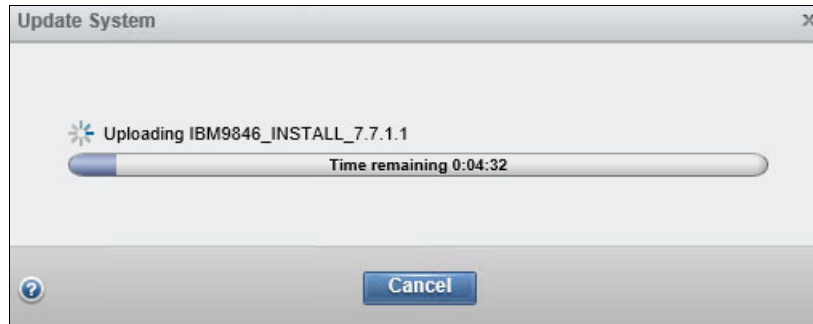

Figure 5-79 CCL upload progress bar
1. The files are uploaded to IBM FlashSystem V9000. A progress bar shows the status of the upload (Figure 5-79).